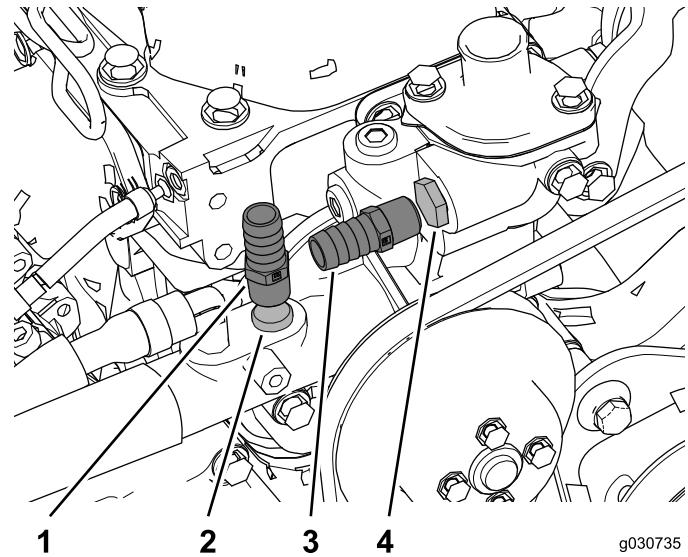

Figure 37
2. Remove the heater supply and return hose plugs from the engine and install the fittings (3/8 NPT x 0.625 barb) as shown in Figure 37.